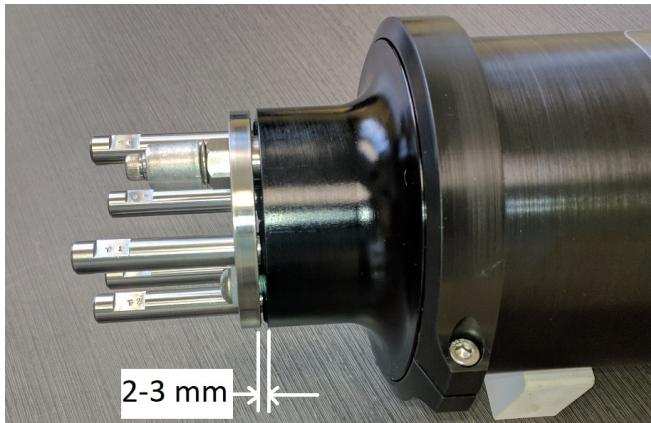

Figure 13: Loosening the Seal Compression Plate
1. Loosen both screws located on the ends of the plate (Figure 13). A gap of 2 – 3 mm between the plate and the front bulkhead is required to completely decompress the O-ring.